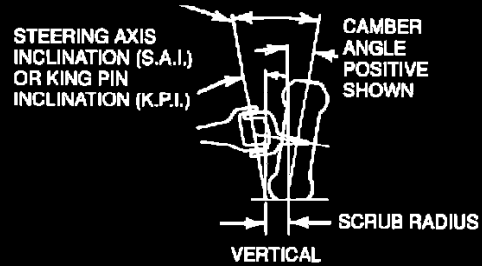

Figure 16
1. For vehicles with constant load (utility bodies) - Set camber to 0 +/- 1/2~. Refer to Figures 16 and 17.